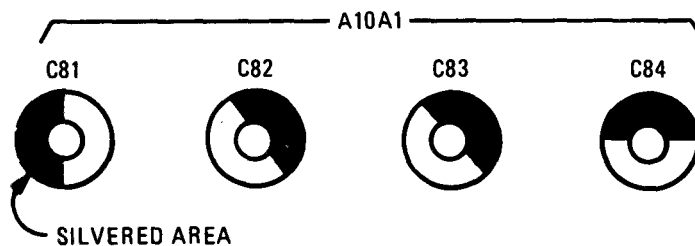

Figure 5-10. 256-512 MHz High Band Capacitor Adjustment Orientation
*The 256-512 MHz high band is the most difficult to adjust and usually takes many iterations. Start with the adjustment capacitors oriented as in Figure 5-10. Stop band minimum loss should be >30 dB from 692-1000 MHz.*